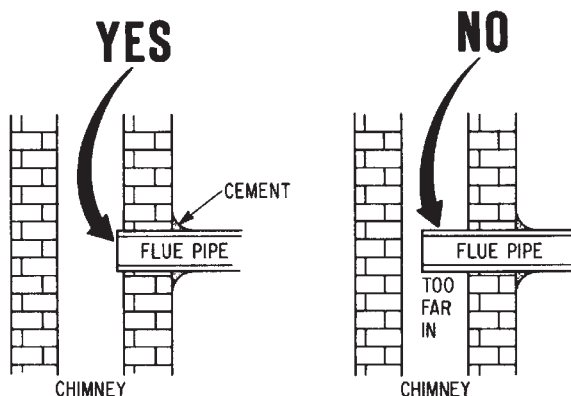

Figure 7
10. When connecting the flue pipe to the chimney, the pipe **MUST** go fully in and be cemented. **See Figure 7.** The flue pipe **MUST NOT** go too far into the chimney. It should be cut off as it will interfere with normal venting. **See Figure 7.**